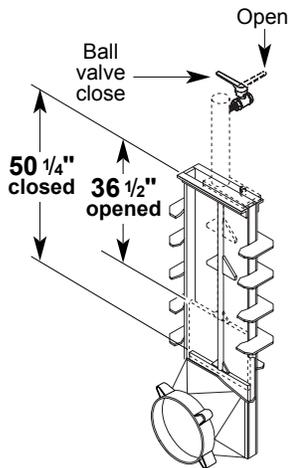

fig. 1
1. If Magnum piston can still stroke upward, make sure the reversing mechanism is at the siphoning cycle position, start the Magnum and stop it before it has reached the top of its stroke and ensure the outlet guillotine is completely closed by measuring the distance between the guillotine door and the drain hose adaptor. The distance, when the guillotine door is fully closed, is about 50-1/4" — fig. 1.